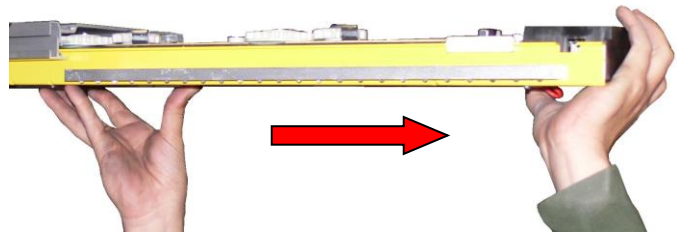

Figure 4 – Remove motor from track
7. Slide the **CommandLIFT™** Motor Unit out of the aluminum track (see Figure 4, below).